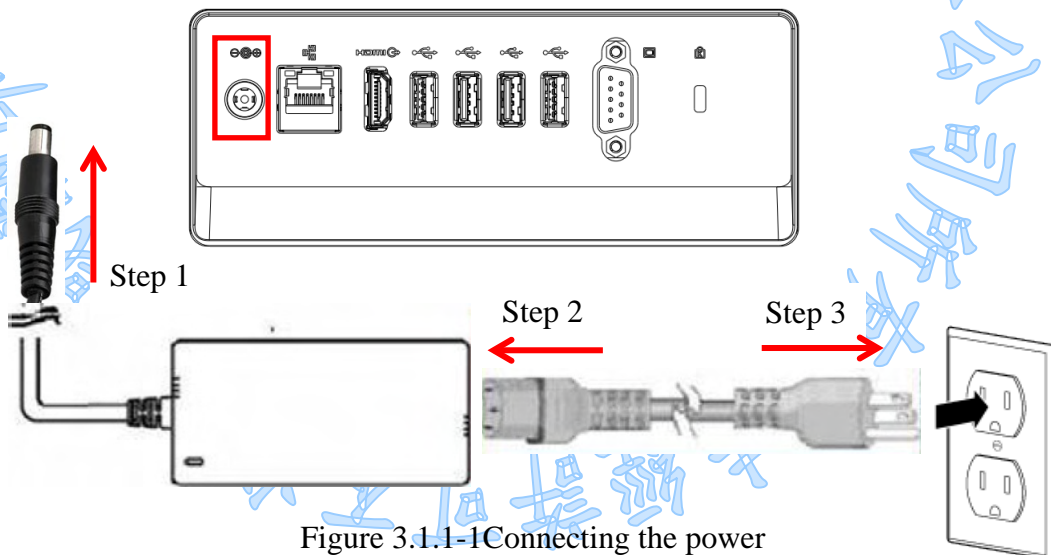

Figure 3.1.1-1 Connecting the power
1. Connect the female end of the power adapter to the DC-in power port of the PC. (See Figure 3.1.1-1)